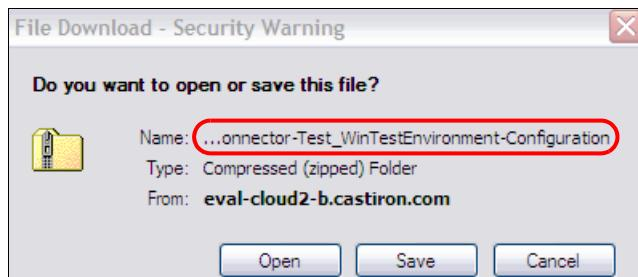

Figure 2-35 WebSphere Cast Iron Live downloading the configuration for Secure Connector
3. Save the file on your local environment. Notice that the name of the file has the environment name and also the connector name (in this example SecureConnector-Test_WinTestEnvironment-Configuration), as shown in Figure 2-35.